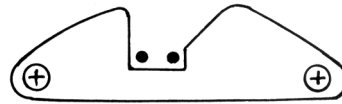

Fig. 6a
- Turn the hook race, without shifting it, until the left and right needle entry points are set at equal distances in the cutout of the thread deflector plate (fig. 6a).